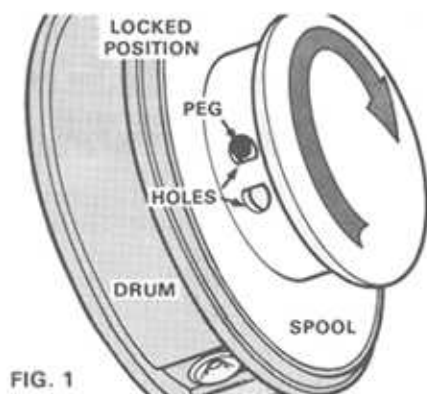
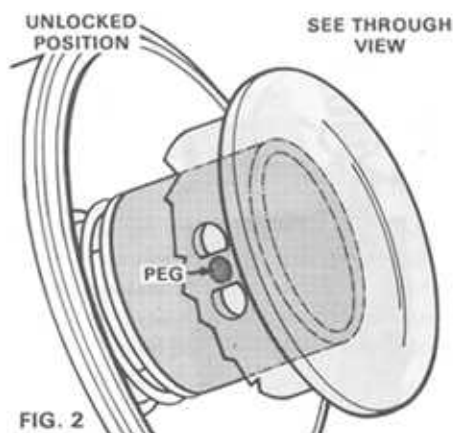

FIG. 1
FIG. 2
1. (Do not push spool in.) Hold drum firmly and turn spool in direction shown (Fig. 1), to take up slack, then twist with a hard snap until plastic peg is between holes (Fig. 2).